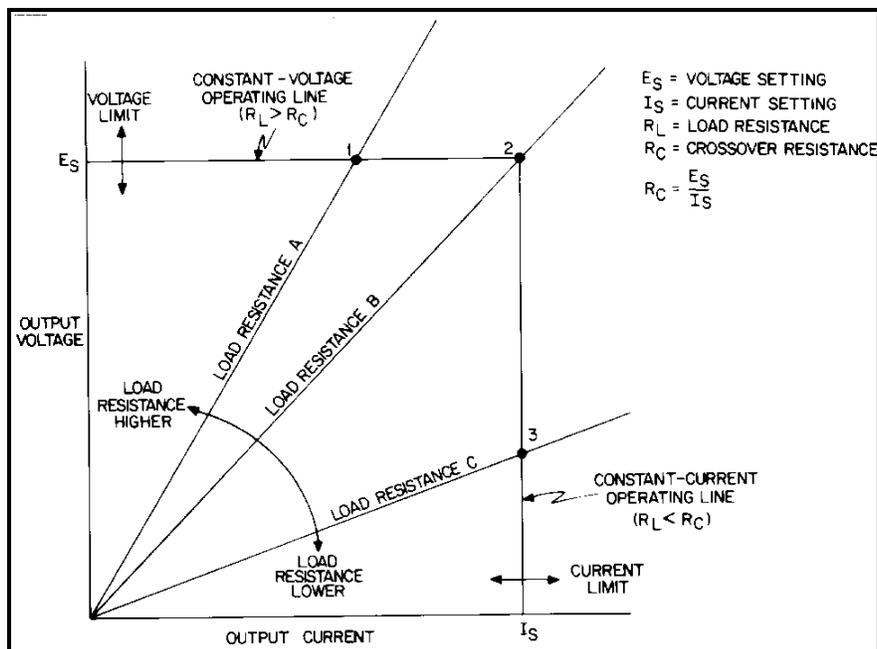
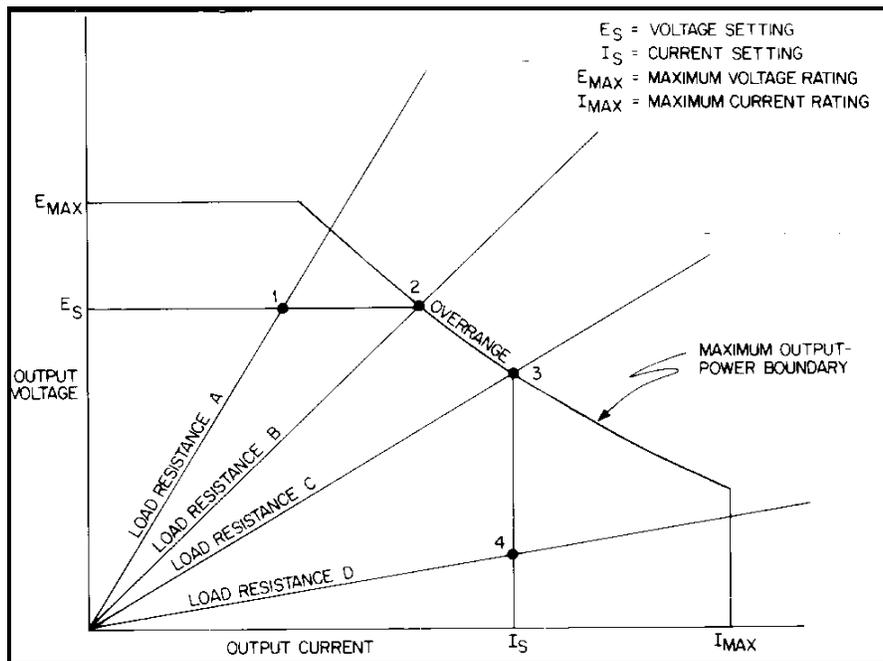

Figure 3-2. Determining Operating Point
Figure 3-3. Overage Operation
The power supply can operate as a constant voltage (CV) or constant current (CC) source over a wide range of output voltage and current combinations. The specifications table contains a graph showing the overall output range of the power supply. Figure 3-2 shows a rectangular operating locus that is defined by voltage and current settings of the power supply. The point on that locus at which the power supply actually operates is determined by the load resistance. Three load-resistance lines are shown on Figure 3-2. The line representing load resistance A, the highest load resistance shown on the graph, crosses the operating locus at point 1. Point 1 is on the part of the operating locus defined by the voltage setting, so the power supply operates in CV mode.
In Figure 3-2 the entire rectangular operating locus falls within the output range of the power supply. Figure 3-3 shows a situation in which the voltage and current settings are high enough that the rectangular operating locus is cut off by the maximum output power boundary of the power supply. For the load resistance A, the power supply operates in CV mode at the voltage and current values for point 1. Similarly, for load resistance D the power supply operates in CC mode at point 4.